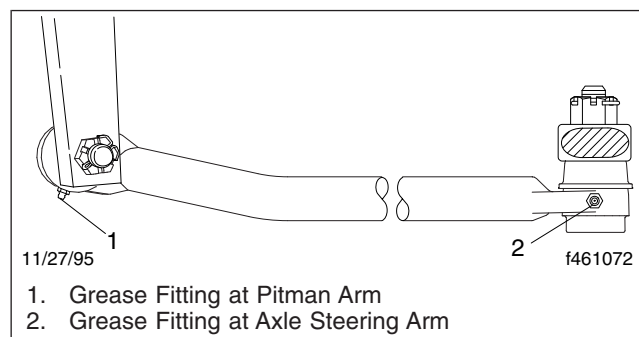

Fig. 1, Drag Link
1. Using a clean rag, wipe all dirt from both drag link grease fittings. See **Fig. 1**.